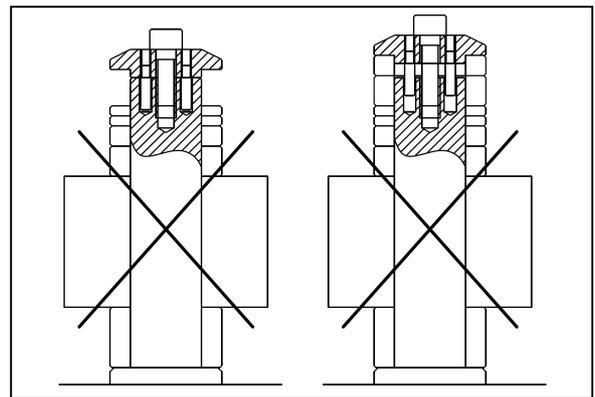

Fig.42
2. **Avoid installing the cutter as shown in Fig.42.**
3. **The tightening torque of the cap screw (A) is about 30 Nm.**